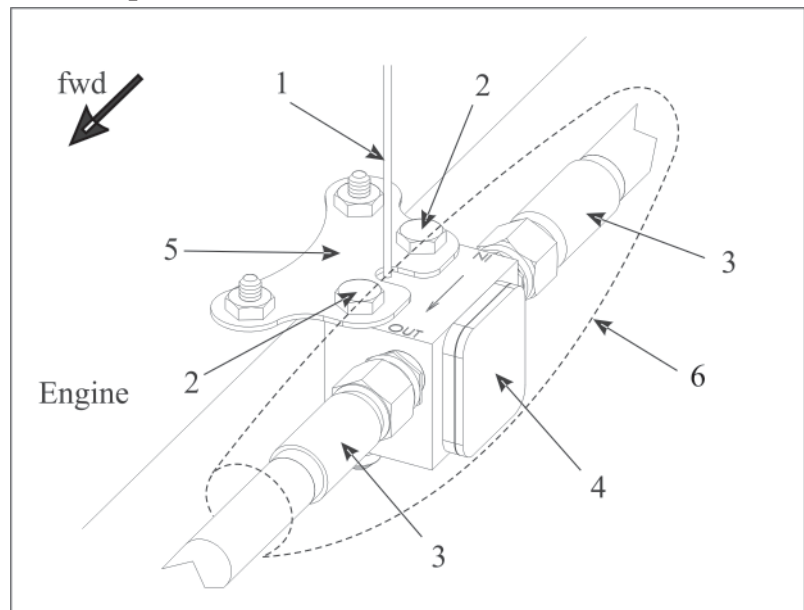

Figure 6
- 3 Remove the fire sleeve (6, Figure 6).
- 4 Disconnect the fuel hoses (3) from the transducer (4).
- 5 Disconnect the electrical wiring (1) from the transducer.
- 6 Remove the attachment bolts (2) and remove the transducer from the mounting sheet (5).
The OT probe is screwed to the respective port on the aft engine side (see Figure 6 of Chapter 79).